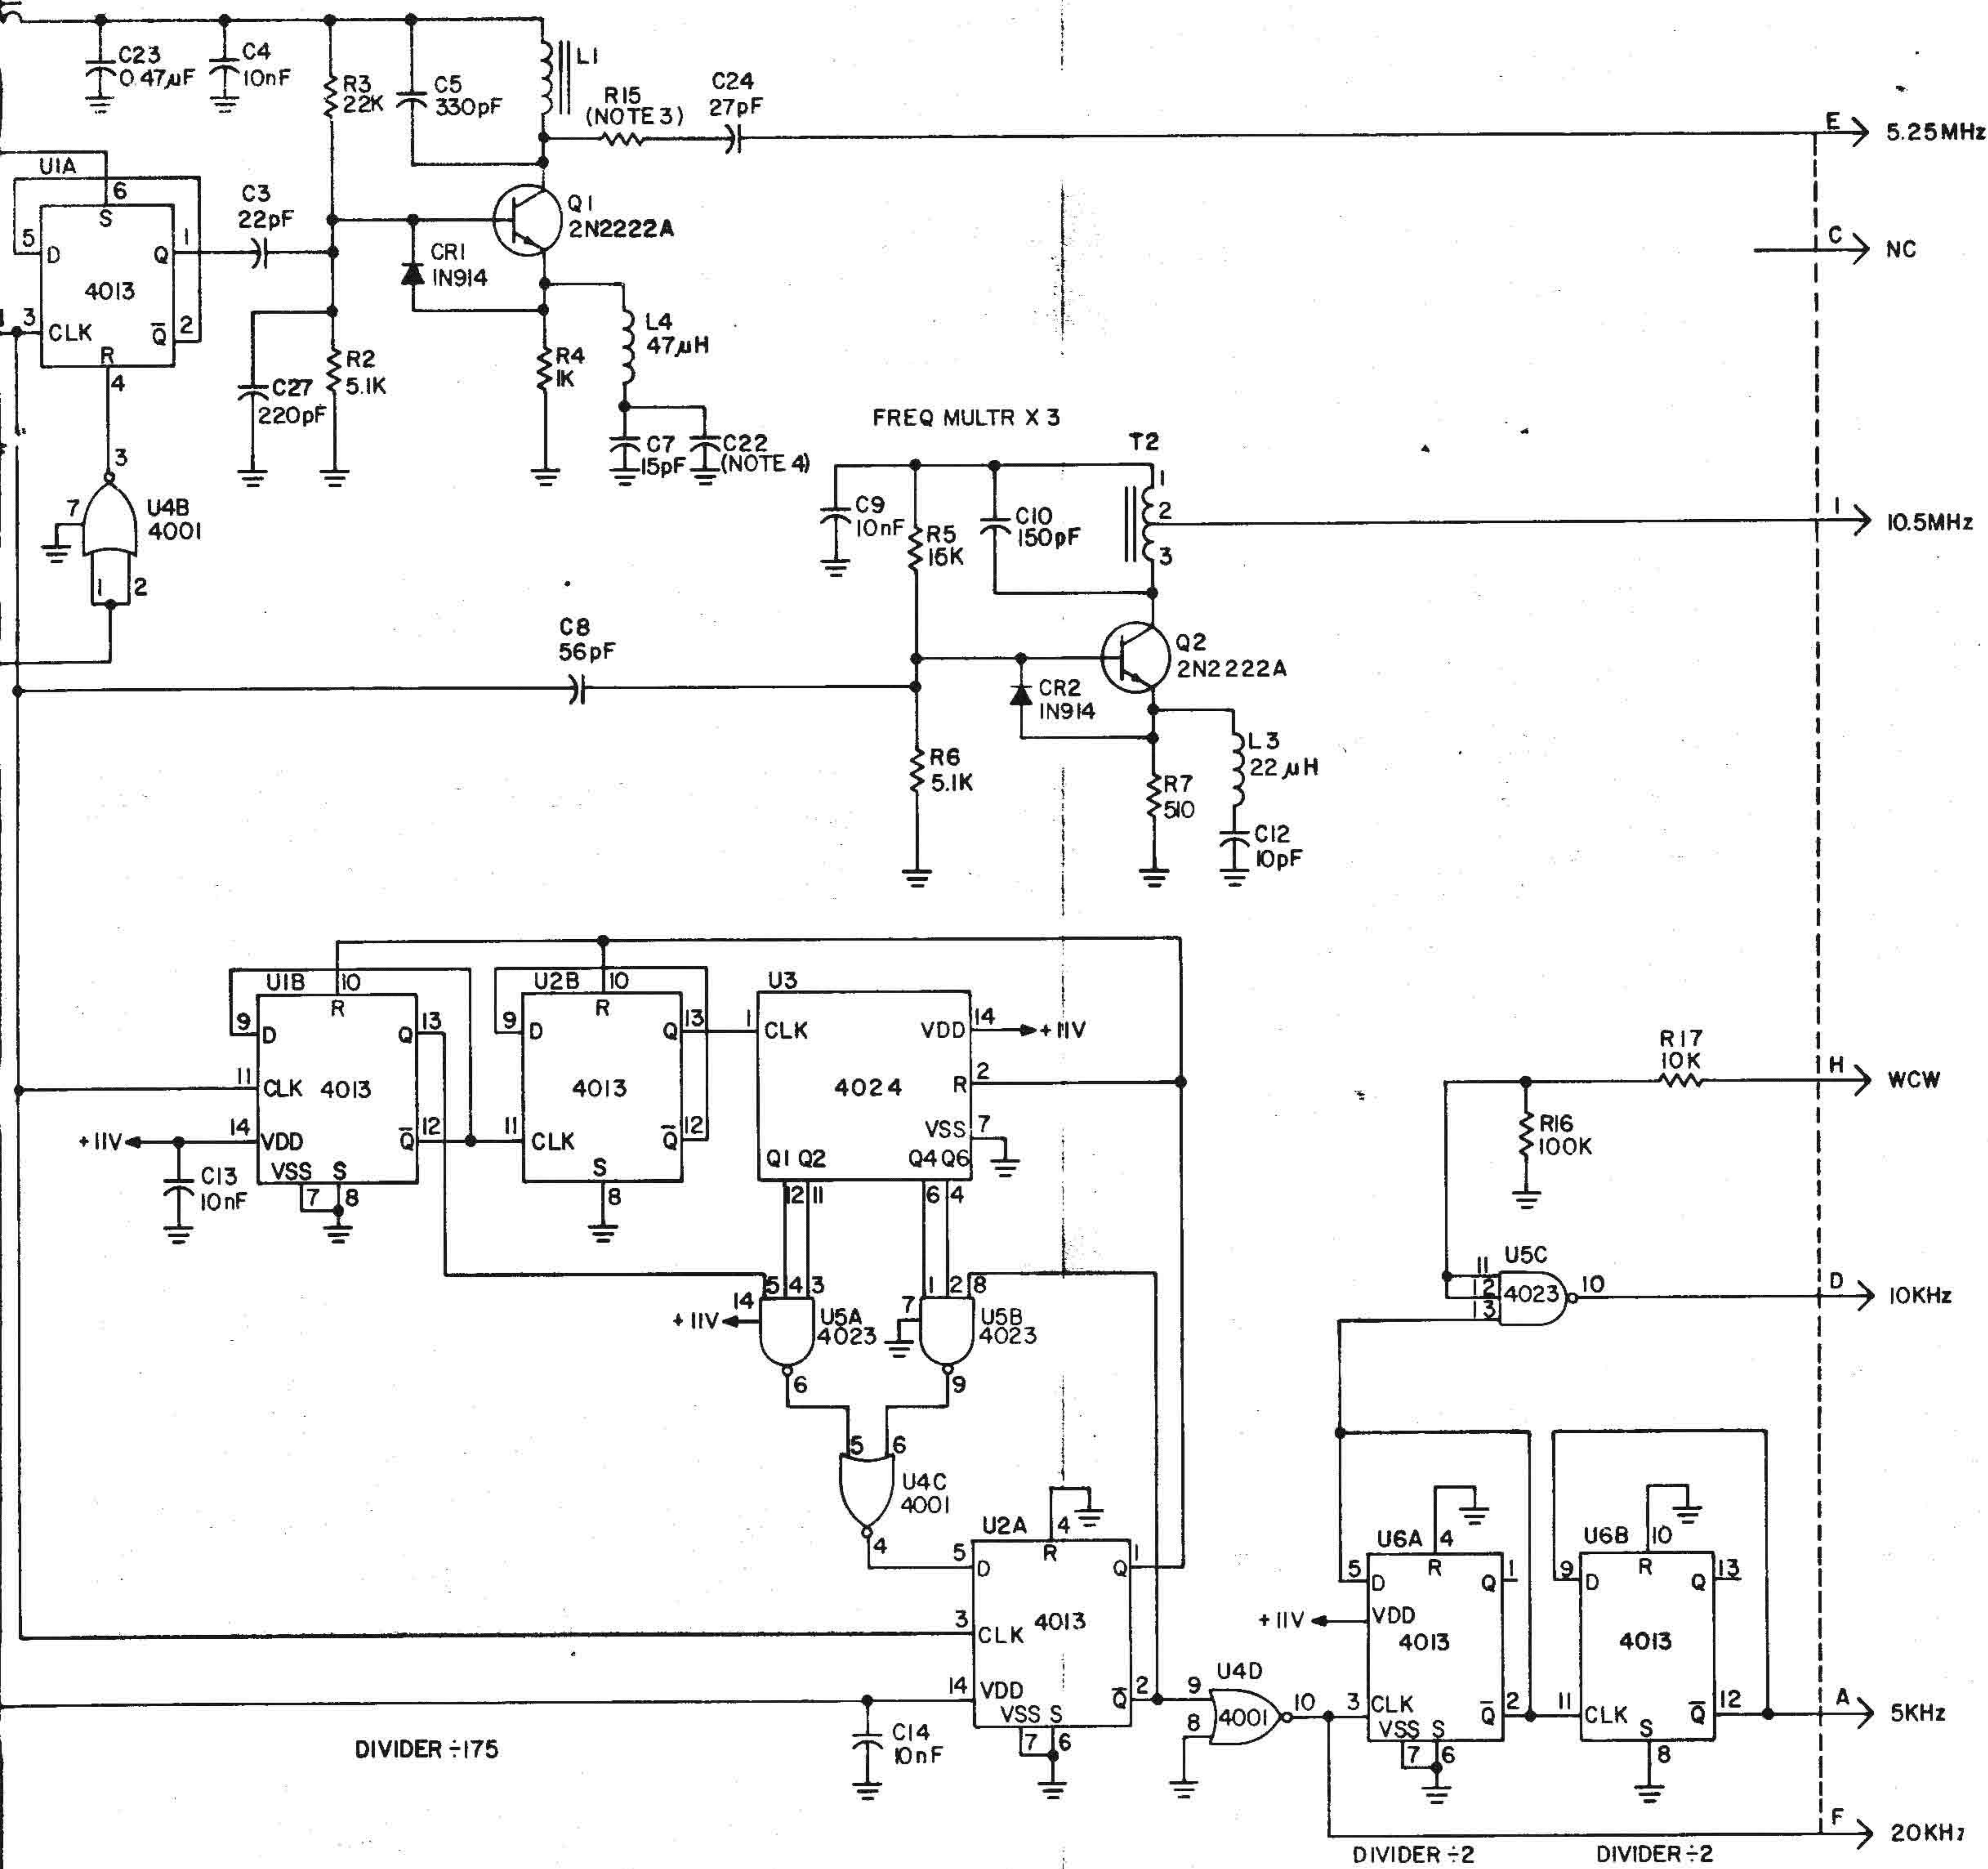
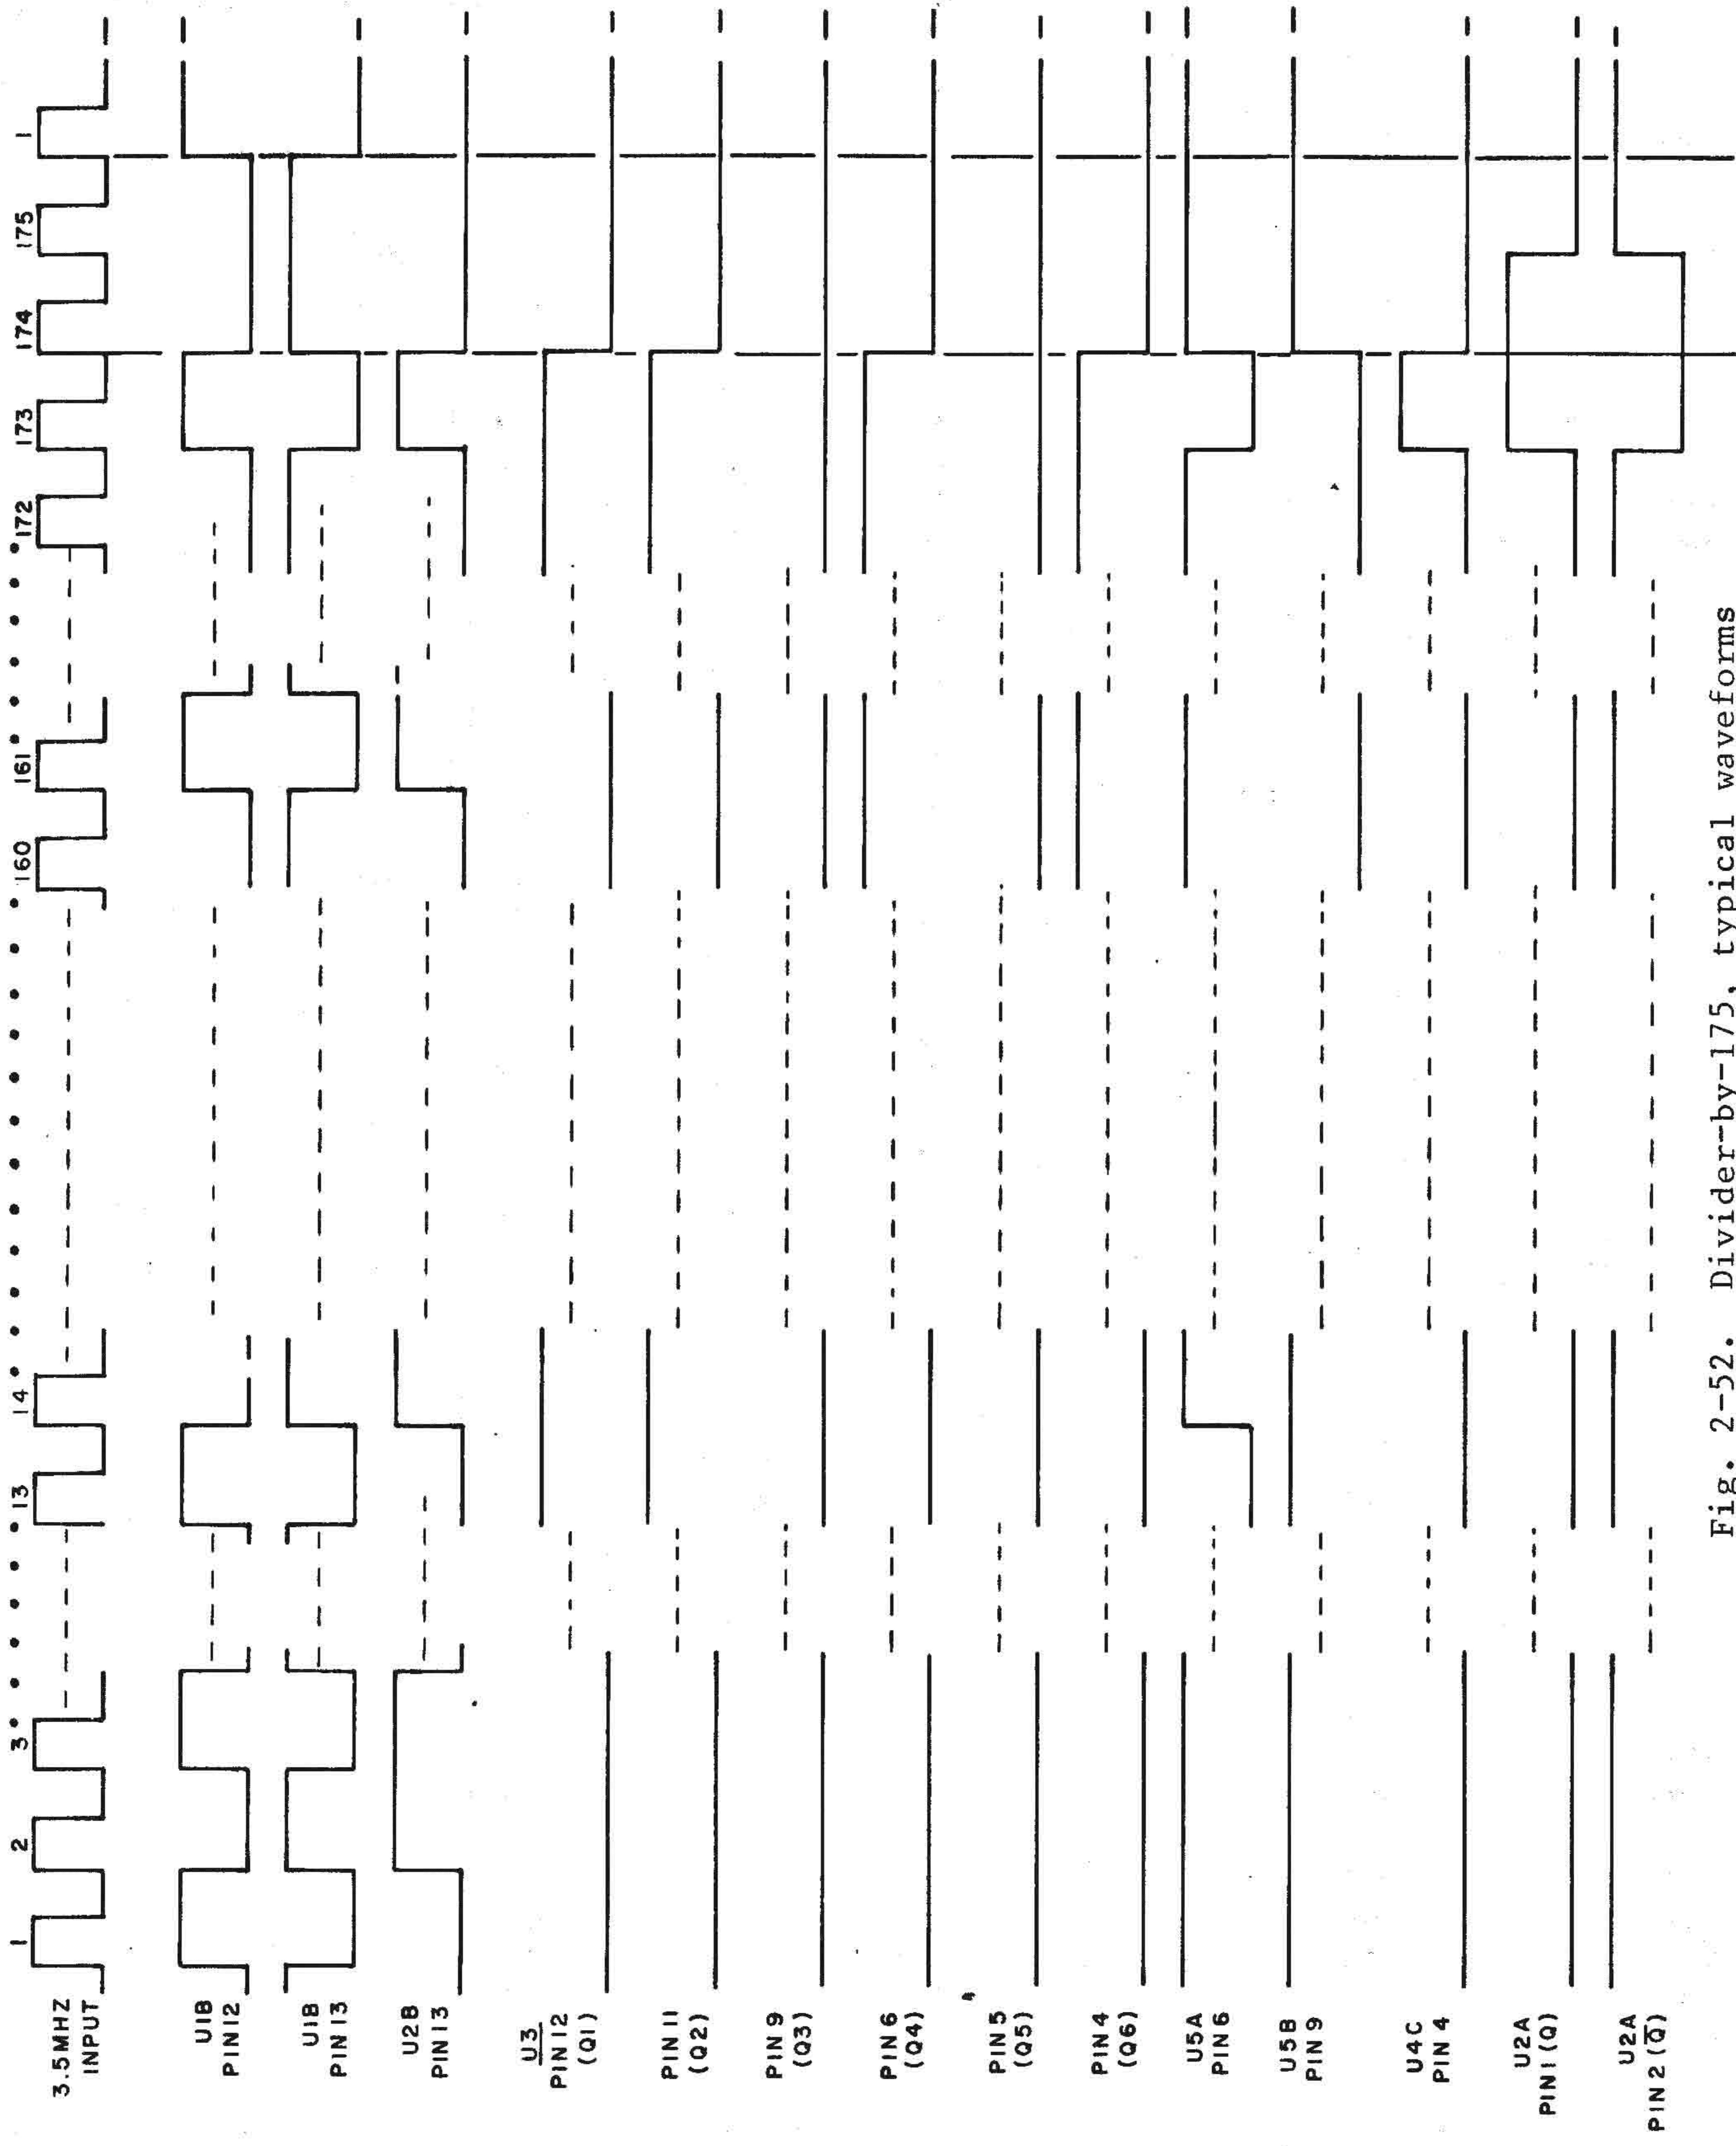

Fig. 2-51. Module REF 1A3A6, schematic circuit diagram
Fig. 2-52. Divider-by-175, typical waveforms
b. Circuit Analysis (fig. 2-51, 2-52).
(1) 3.5-MHz TCXO (fig. 2-51). The reference for the synthesizer circuits is a 3.5-MHz TCXO, supplied by U7 with a +10.6-V regulated voltage. U7 is an integrated circuit regulator, whose output voltage is determined by the ratio of R20 to R21. Resistor R19 is the current-sense resistor, which provides protection by current limiting. The TCXO output is connected to the other frequency generation circuits through gate U4A.
(2) 10.5-MHz signal (fig. 2-51). The 3.5-MHz signal is applied, via C8, to the tripler circuit consisting of transistor Q2. The collector tuned circuit, comprised of T2 and C10, resonates at the third harmonic of the input signal, 10.5 MHz. The third-harmonic component of the current
(3) 5.25-MHz carrier (fig. 2-51). The frequency of the TCXO output signal is divided by 2 by flip-flop U1A, and the resulting 1.75 MHz signal is applied to a tripler circuit built around Q1. The tripler circuit is similar to that used for 10.5-MHz generation. The DC supply voltage of Q1 is filtered by L5, C4, and C23. The operation of divider U1A can be inhibited by a low level applied at pin G (INH F3 line). This level is inverted by U4B and applied to the reset input of U1A. The low level at pin G appears during AM receive operation, when the 5.25 MHz is not required.
(4) 20-kHz reference (fig. 2-51, 2-52). This signal is derived by dividing the frequency of the 3.5-MHz signal by 175, by means of frequency dividers U1B, U2, U3, U5A, B and U4C, C. U1B and U2B are D-flipflops, connected as dividers-by-2. U3 is a seven-stage binary counter: Q1 is the output of the first stage and Q6 is the output of the sixth stage. The 3 counters, U1B, U2B and U3, are connected as a binary ripple up-counter. Figure 2-52 presents typical waveforms. Assuming that a division cycle just ended, the counters U1B, U2 and U3 start counting up, until the counter outputs reach the state 10101101 (this represents the state of the divider outputs, output Q6 of U3 being the most significant digit). This state is the binary representation of the decimal number 173. Reaching this number means that 173 input pulses were received; after this number of input pulses, the output of gate U4C rises to the high level. On the 174-th input pulse, this level is transferred to the Q-output of D-flip-flop U2A and immediately resets all counters to 0.....0. Simultaneously, the fall of \bar{Q} output of U2A causes the output of U4C to return to the low level. On the 175th input pulse, this level appears at the Q output of U2A
(5) 10-kHz reference (fig. 2-51). The frequency of the 20-kHz signal is halved by D-flipflop U6A, which is connected as a divide-by-2. The resulting 10-kHz signal is applied to the U5C input. The signal will be transferred to pin D only when WCW (CW) control line (pin H) is high (this occurs in CW operation).
(6) 5-kHz reference (fig. 2-51). The frequency of the 10-kHz signal is divided by U6B, and the resulting 5-kHz signal appears at pin A.
(7) Transistor Q3 supplies DC power to the 5.25-MHz multiplier and to the division circuits. Its output voltage (+11V) is determined by the ratio of R8 to R9. C19 filters the output voltage.